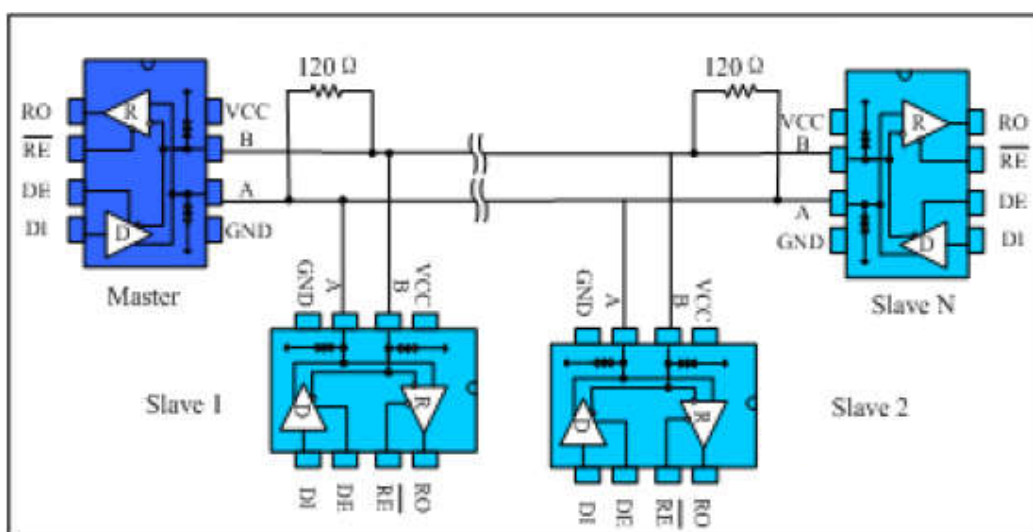

Fig. 9 Bus-type RS485 half-duplex communication network
4.1 Bus networking: The ADM3485E RS485 transceiver is designed for bidirectional data communication on multi-point bus transmission lines. Figure 9 shows a typical network application circuit. These devices can also be used as linear repeaters with cables longer than 4000 feet. In order to reduce reflections, terminal matching should be done at both ends of the transmission line with their characteristic impedance, and the length of the branch wires other than the main line should be as short as possible.